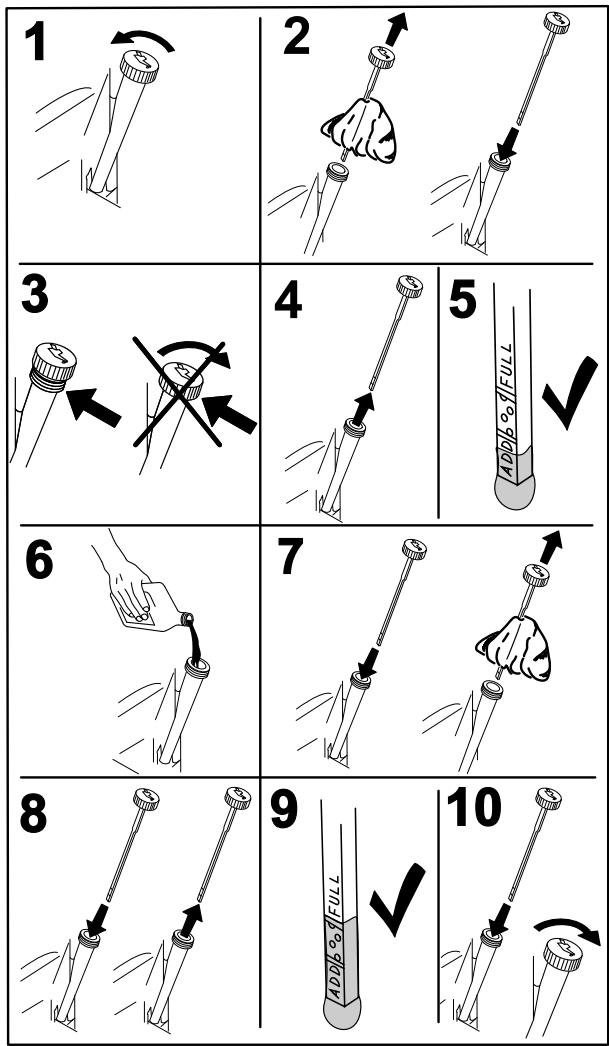

Figure 44
2. Stop the engine, remove the key, and wait for all moving parts to stop before leaving the operating position (Figure 44).